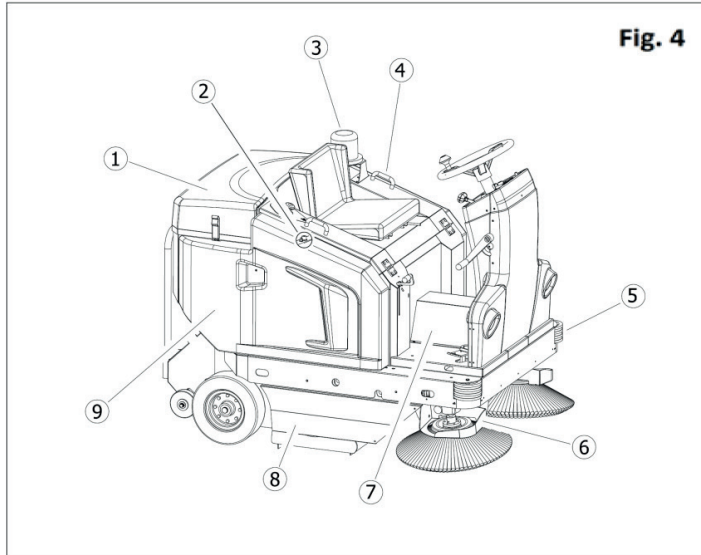

Fig. 4
- 1) Use a three-pronged hook with a suitable capacity for the weight of the machine (provided on the CE plate). Lift the motor hood until it is resting on the steering wheel, all the way open. Screw the eye-bolt all the way into the threaded hole on the platform by first of all taking the casing off of the motor (Part. 7 Fig. 4). Hook all of the prongs onto the lifting hooks (all three) marked as **A/B/C** in **Fig. 1** and using a forklift or bridge crane (with a suitable capacity for the machine), lift it off of the pallet and very slowly place it on the ground.
As illustrated in Fig. 4 it is possible to see the safety guards that must be intact and accurately installed. It is not possible to use the machine with one or more missing or damaged guards.